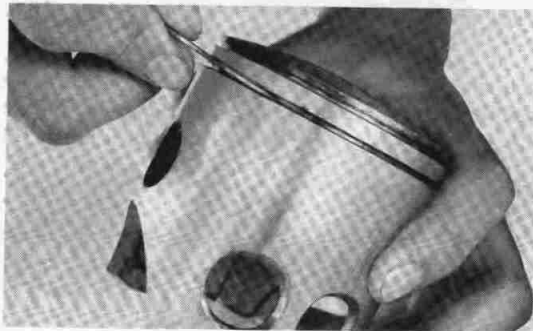

Fig. 3-4-11
3. Remove carbon deposits from ring grooves. (Fig. 3-4-11)
3. Décalaminez les gorges des segments. (Fig. 3-4-11)